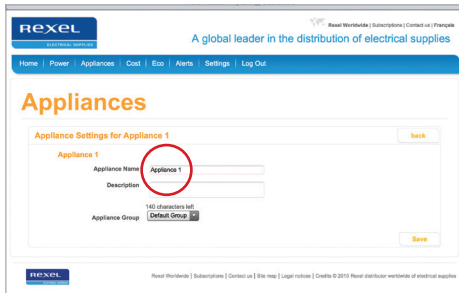

fig.12
4. Click in the Appliance Name box and give the appliance a descriptive name, such as; TV, Dishwasher, AV Cabinet (fig.12).